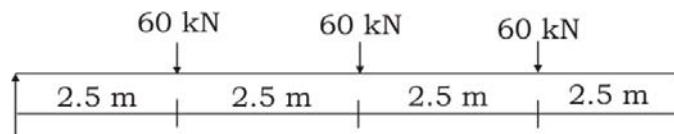

Fig. 2
11. Design a main floor beam supporting three equidistant floor joints over a span of 10 m as shown in Fig. 2. Each joint provides restraint to main beam & transmits a load of 60 kN of the beam.